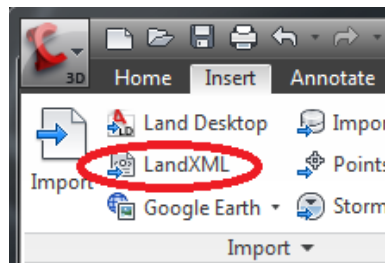

Figure 27: Importing LandXML
3. On the Insert ribbon, in the Import section, click the LandXML button (see Figure 27).